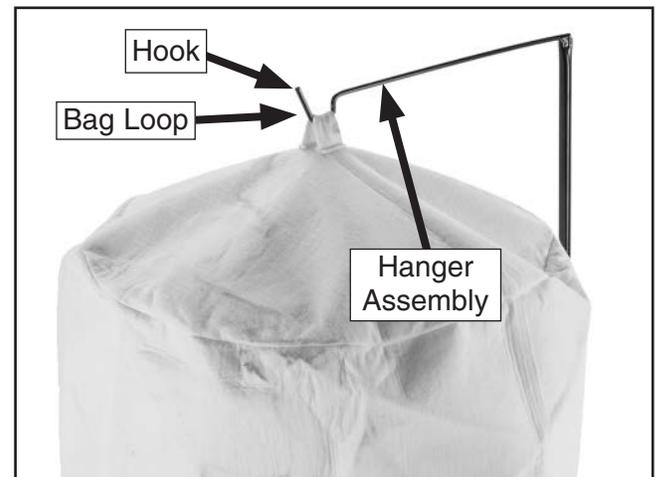

Figure 15. Upper filter bag mounted on filter bag support assembly.
- Place loop at top of upper filter bag over hook on filter bag support assembly (see **Figure 15**).